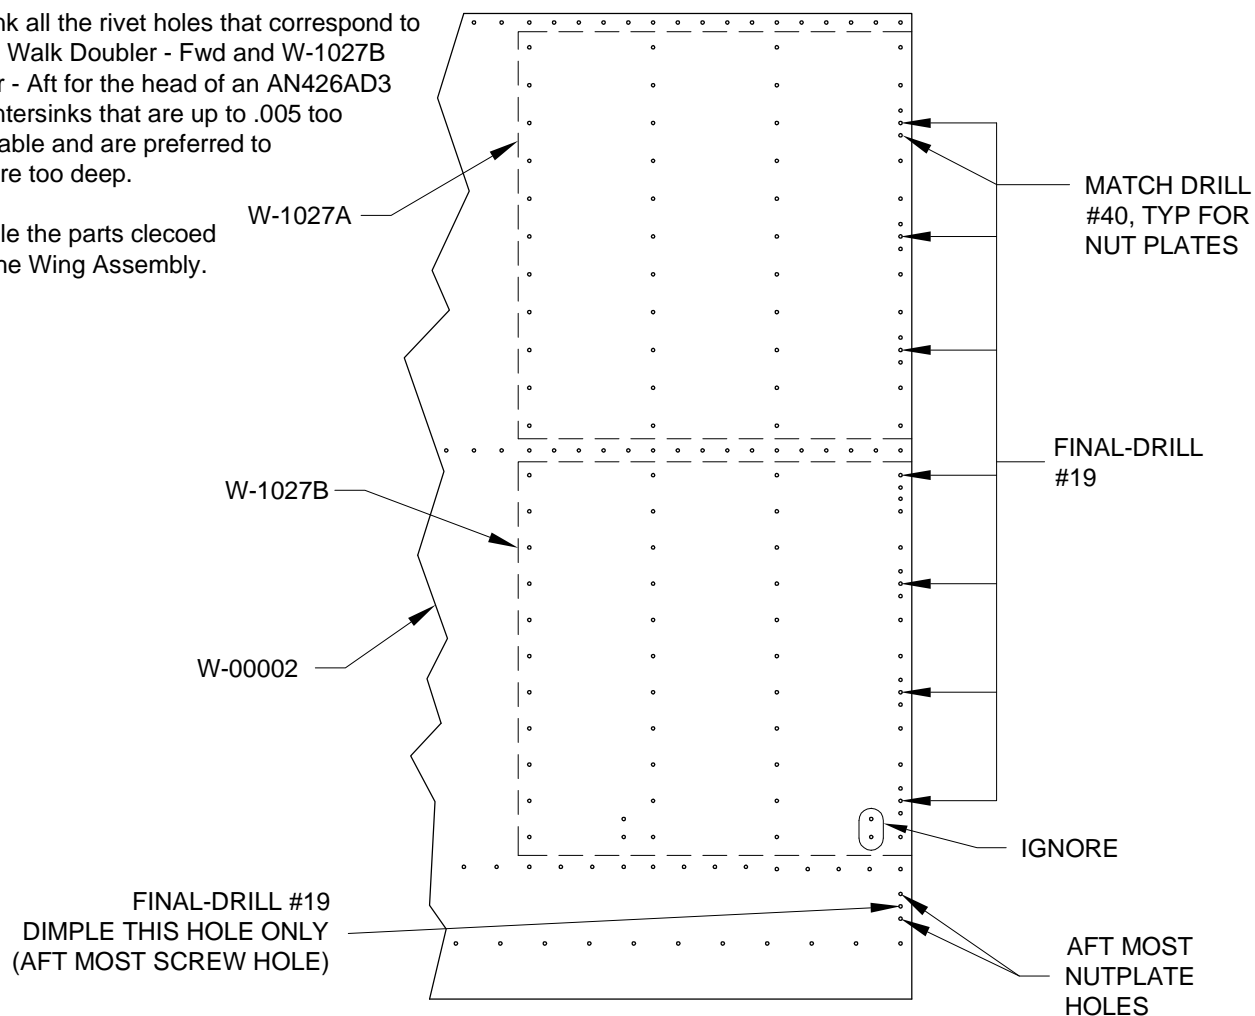

FIGURE 1: FINAL-DRILLING THE WING WALK DOUBLERS
NOTE: Ignore the two holes in the W-1027B Wing Walk Doubler shown in Figure 1. These holes remain unused in the RV-14
Step 2: Match-Drill #40 the rivet holes for the nutplates that will be installed along the inboard edge of the W-00002 Top Inbd Wing Skin, W-1027A Wing Walk Doubler - Fwd and W-1027B Wing Walk Doubler - Aft to the W-1010-R Inbd Wing Rib. See Figure 1, also see Page 16-03, Figure 1.
Step 3: Final-Drill #19 the screw holes for the nutplates that will be installed along the inboard edge of the W-00002 Top Inbd Wing Skin as shown in Figure 1. Use caution when enlarging the hole for the middle nutplate. Be sure you drill the correct hole for later installation of a single leg nutplate.
Step 4: Deburr then dimple the aft most screw hole for a #8 flush head screw (see Figure 1).